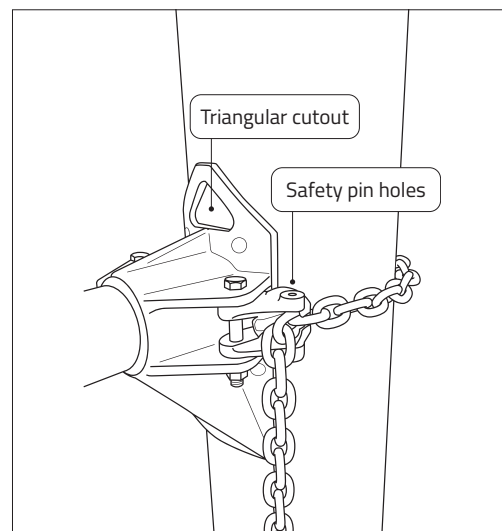

Fig. 1
NOTE: When installing, ensure that the triangular cutout on the pole mount casting has the point of the triangles facing toward the top of the pole. (Fig. 1)
4. Pull the chain taught and insert the chain into the retaining socket. Once the chain is securely installed in the socket, install the safety pin through the safety pin holes in the socket that can be found at the end of the chain. (Fig. 1)